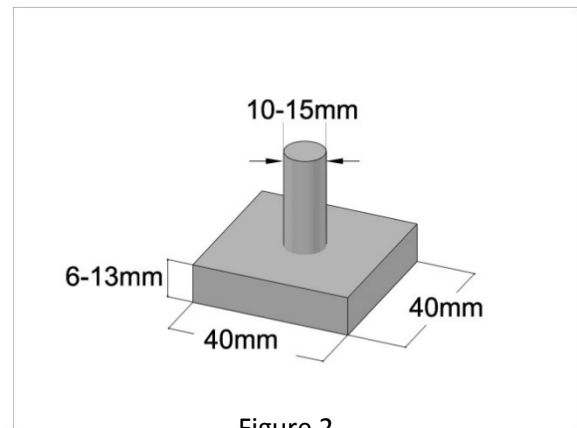

Figure 2
- a. The load will be applied from above with the loading plate (**Figure 2**) centered over one of the three loading locations. (**hint: Be sure to provide enough clearance for the loading plate to be lowered into position from above.**)
- b. The load will be applied from above by means of a 40 mm square by 6-13 mm thick plate. A 10-15 mm diameter loading rod will be attached to the center of the plate (**Figure 2**). The plate will be horizontal, have a flat bottom and will not pivot on the loading rod.